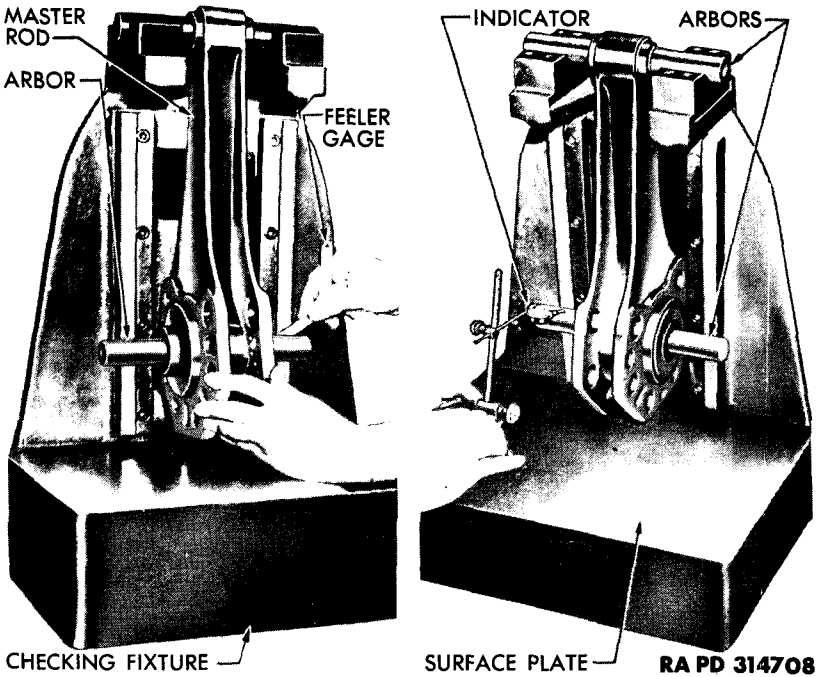

Figure 130 – Checking Master Rod Twist
(6) **CHECK MASTER ROD TWIST.** Check master rod for alinement, and for twist in relation to the crankpin (fig. 130), using alinement stand (41-S-4977) and the proper sized alining bars (par. 92), a dial indicator, and feeler gage set. Insert arbor in each knuckle pin hole in master rod, one at a time. Check alinement of each hole. If misalinement, twist of master rod, or misalinement of knuckle pin holes exceeds 0.004 inch for every 6 inches, in any instance, replace rod. Do not attempt to straighten master or articulated rods.